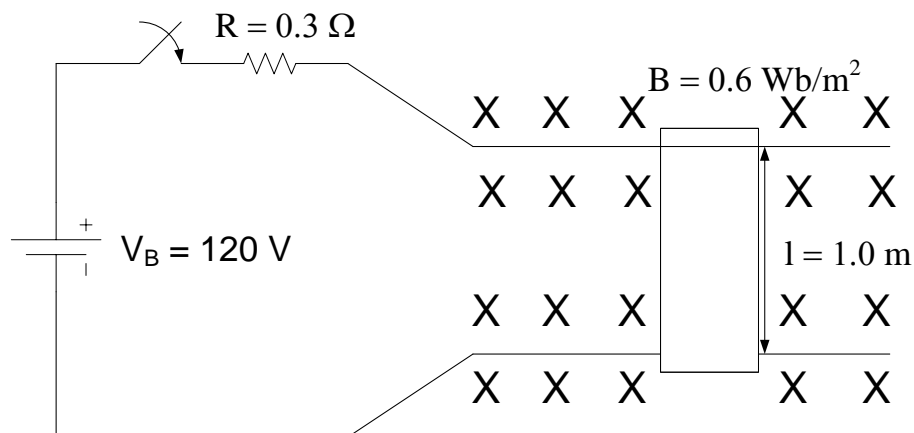

Fig. Q4(a)
- Q.4 (a) A linear DC machine has a constant flux-density of 0.6 Wb/m^2 directed into the page of the paper, a resistance of 0.3Ω , a conductor bar of length 1.0 m , and a battery voltage of 120 V as shown in Fig. Q4(a).